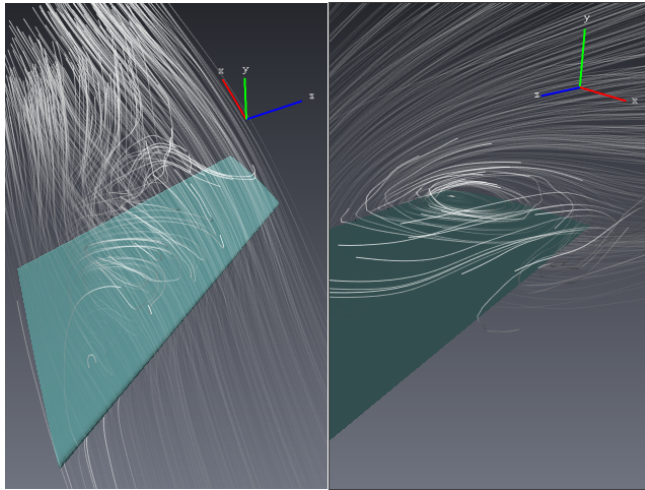

Figure 13.85: Illuminated Streamlines of the velocity vector field.
- Rotate and zoom in and out to get two different views, something like Figure 13.85.